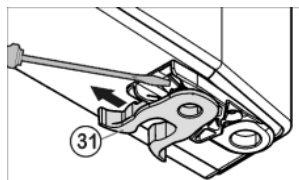

Fig. 9
- Turn around the spring clamp Fig. 9 (31): Press down the detent lug and pull the spring clamp up and over to remove it.